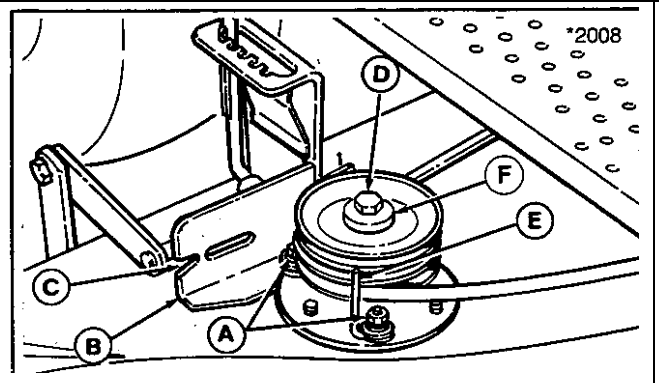

Figure 2.
2. Slip mower belt off the right hand pulley. Remove the pulley from the arbor by removing capscrew (D, figure 2) and washers (F). Save washers for reinstallation. Use wood block to prevent blade from turning.
Later model decks have 1-1/2" taptite screws, rather than 1" taptite screws, location A, figure 2. If capscrew protrudes 5/8" above arbor, new capscrews do not need to be installed
3. Remove brake spring or spring anchor (if equipped) and two taptite screws from arbor at locations A, figure 2. Replace these with two 5/16-18 x 1-1/2 capscrews (A).
4. Before installing arbor bracket (B, figure 2 & A, figure 3), remove washer from underneath blade brake bracket (rear capscrew). Arbor bracket is same thickness as washer and will replace washer. Loosen the front flange nut and remove the rear flange nut on the blade brake bracket.
8. Slip the mower drive belt onto the lower groove of the new pulley (D, figure 2). With the mower PTO engaged, adjust the belt stops 1/8" from belt. Tighten the hardware.